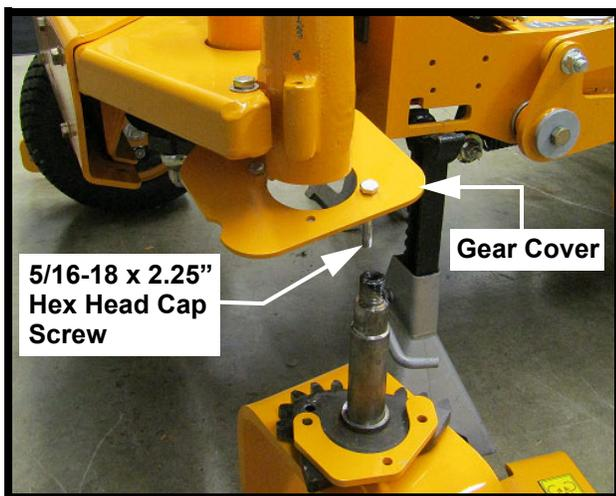

FIGURE 12
21. Install the 5/16-18 x 2.25" hex head cap screws from the top through the Gear Cover and place the Gear Cover with cap screws over the inner steering gear to hang in place as shown in Figure 12.